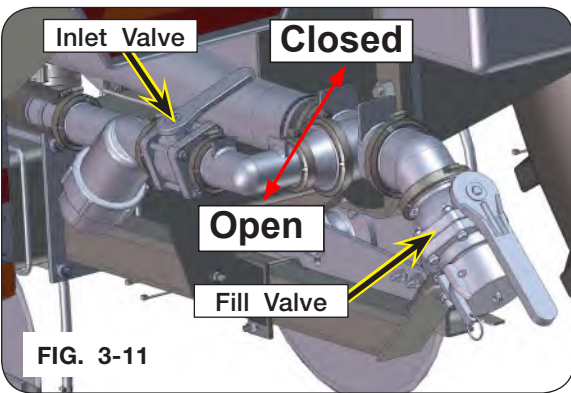
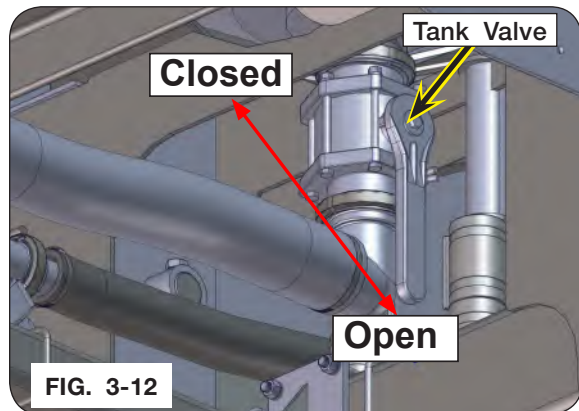

FIG. 3-11
FIG. 3-12
2. To fill tank, remove the cap and attach hose to quick fill coupler. Turn pump inlet valve to closed (Fig. 3-11) and check that tank valve is open (Fig. 3-12). Open fill valve.